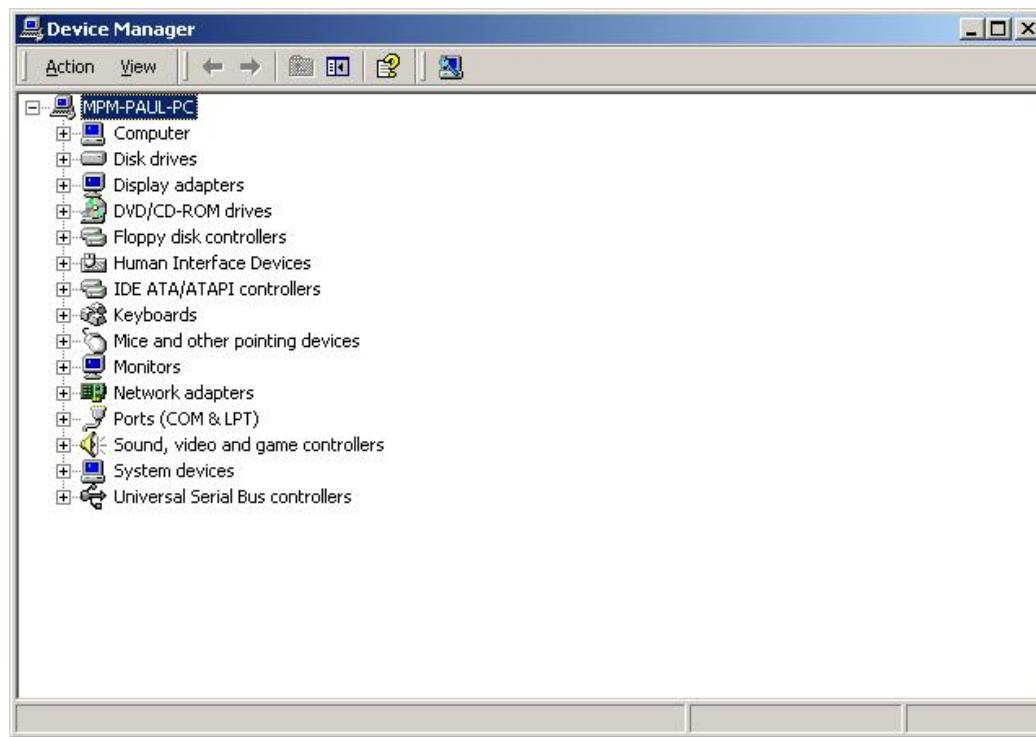

Figure 7-28: Device Manager List
Step 15: A list of system hardware devices appears (**Figure 7-28**).